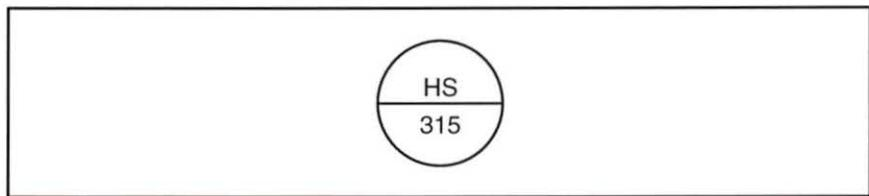

Figure 63. Instrument Tag
3. Determine the measured variable and function of the device using the instrument tag in figure 63.